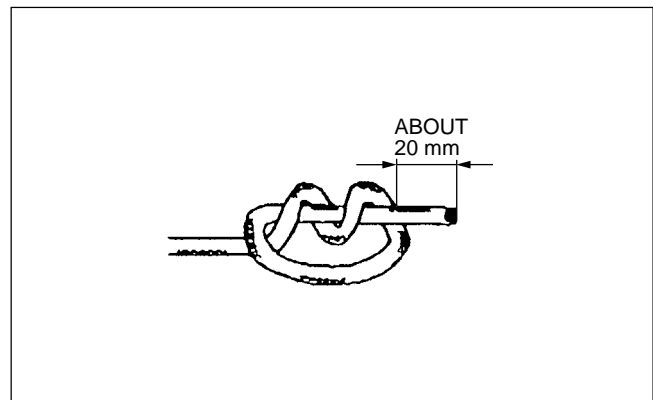

Fig. 10-15
(5) Setting the rope. (2 people required)
- 1: Pass the rope end through the rope guide to the rope hole on the reel and make a knot as shown in Fig.10-15.